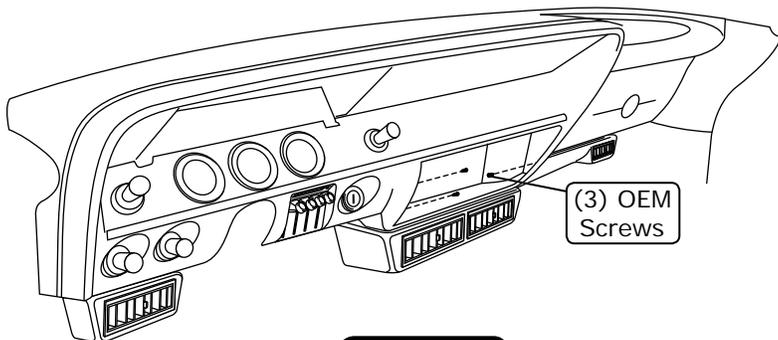

Figure 18
5. Install supplied glove box, and secure using (3) OEM screws through the OEM holes as shown in Figure 18, below.